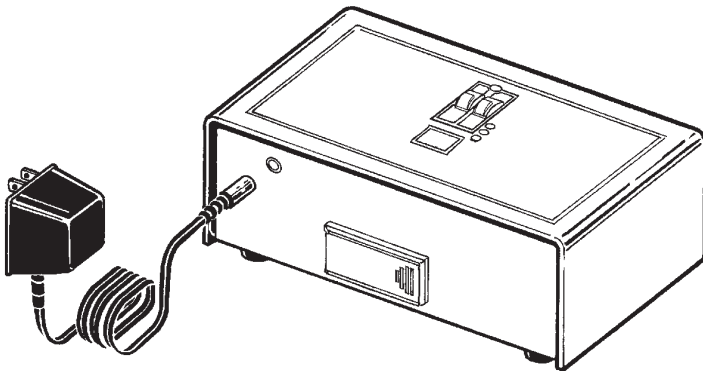

Figure 3-1. Connecting Power to Model 1027
- 2** **Avoid using switch-controlled outlets.** Plug power adapter into power input jack on Model 1027 (Figure 3-1), then plug power adapter into a mains power wall outlet that matches power ratings printed on power supply.